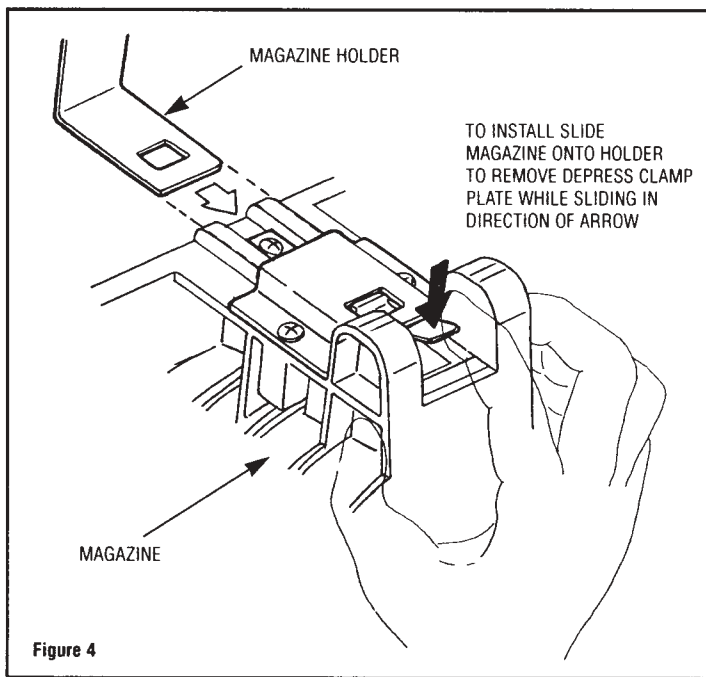

Figure 4
**(a) Use An Appropriate Power Supply** - The power source should conform to the specifications stated on the nameplate. A direct current (DC) power supply can damage the unit and cause injury. Before connecting the FD/FLVL41 to a power source, ensure the trigger switch is in the "off" position. The motor will start automatically if the plug is connected to a socket with the switch in the "on" position. Pull the trigger switch to start the unit and release it to stop. When releasing the switch, always check that it returns to its former position.
**(b) Installing The Magazine** - Push the magazine onto the magazine holder until it clicks firmly into position. See figure 4. The magazine is inserted onto the tool from the motor end in the direction of the feeding mechanism. The magazine may be used as a stand while the tool is not in use. To remove the magazine, press the clamp plate on the side of the magazine and remove it from the magazine holder.